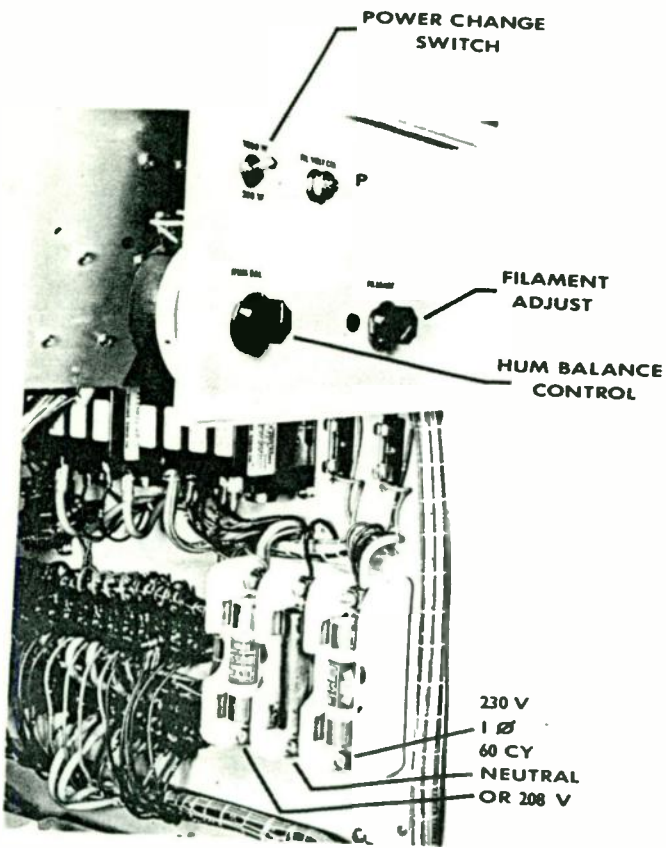

FIGURE 2
2. Connect the main transmitter power wiring to the fuseblock as shown in Fig. 2, Page 7. Make sure that the neutral wire is connected to the center terminal of the fuseblock.
3. Place the POWER CHANGE SWITCH in the 1000 watt position, Fig. 2, Page 7.
8. Now place the MULTIMETER switch in the FILAMENT position and turn the FILAMENT ADJUST control, Fig. 2, Page 7, until the meter reads 8.5 volts.
20. Readjust the signal generator for 100% modulation, turn off the signal generator and measure the noise. Adjust the HUM BALANCE CONTROL, Fig. 2, Page 7 for minimum noise. Assure that test equipment leads, and power supply connections are not contributing to the measured noise.
1. Insert the POWER CHANGE SWITCH to the low power position. See Fig. 2, Page 7.